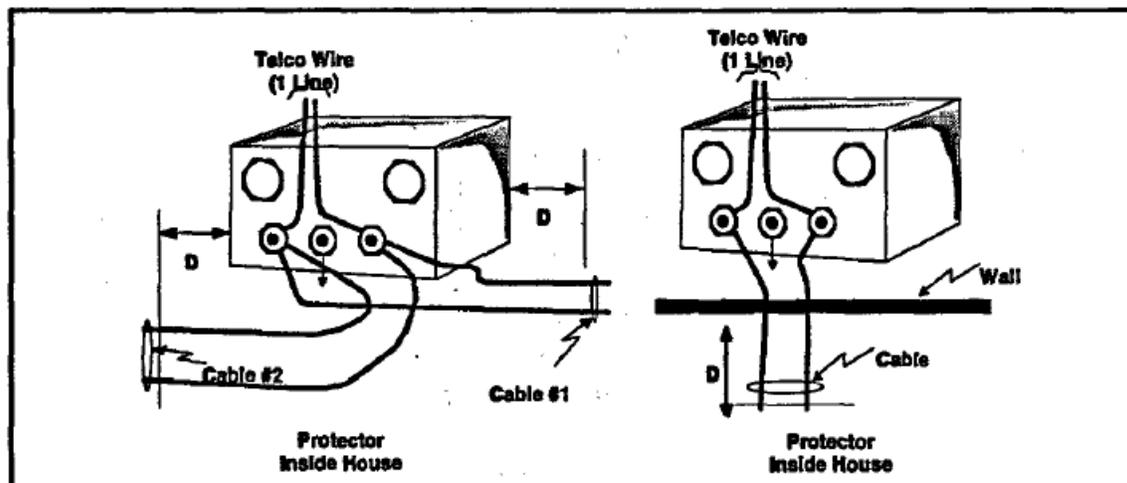
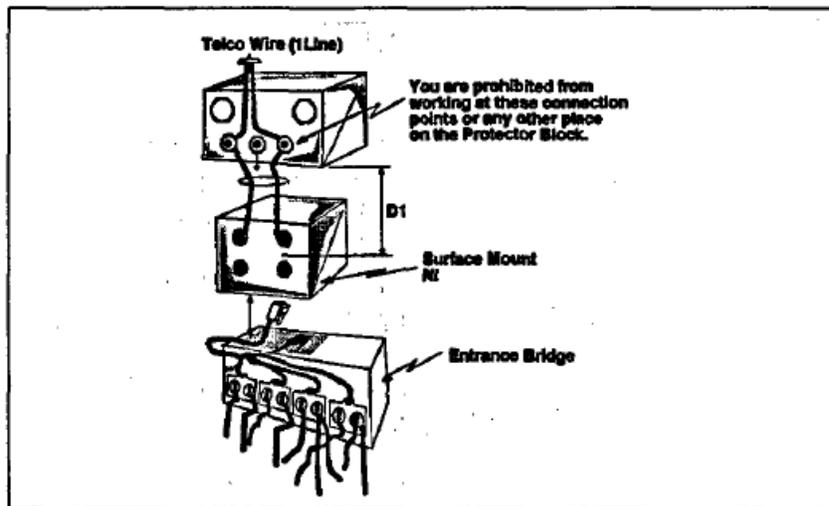

Figure A.1
Figure A.2
In the case where there is no physical device available for NI connections, a number of options are available to the homeowner. The intent of the following discussion is to provide the information required to convert a situation like the one in Figure 1.2(a) into a configuration like one of those shown in Figures A.2 and A.3. The most important step in this process is the addition of
The first step in a conversion involves understanding the 12" Rule which is illustrated in Figure A.1. The left side of the figure shows where the Protector Block is located inside the building, while the right side illustrates where the protector is outside the building or there is no protector. In both cases there are most likely one or more distribution devices, like the junction boxes of Figure 1.4 (a), located within your house. While these junction boxes can legally be used to add additional cables, this approach is not consistent with good practice and will not provide the flexibility that is required for modern communications services like ISDN.
If the Telephone Company performs the conversion they are required, by the 12" rule, to place the NI device within 12 inches of the Protector Block or the point of wire entry into the house. This distance is shown as dimension 'D' in Figure A.1. It is important to understand that D is the distance from the Protector Block and NOT the length of the **wire**. For example, notice the difference in the length of cable 2 and the distance D on Figure A.1. A number of options are available to you when you do not have a NI device.
Figures A.2 and A.3 provide illustrations of the type of NI that uses a Protector Block and a surface mount outlet (SMO). In these figures the distance D1 will be 12" or less in Ameritech installation. If you are not going to use Ameritech for your installation you should understand their policy with respect to the distance from the Protector Block to the NI device (D1). There are two possibilities, either you can place the NI device within the 12" limit or you must place it more than 12" from the Protector Block. In either case, you are prohibited from working any
2. Select the desired location for the distribution device. Make sure that all of the cables connected to the Protector Block will reach the demarc device (for example, the Surface Mount Service Outlet in Figures A.2 & A.3).
3. Select a single in-house cable, for example cable #2 in Figure A.1. Cut this cable to reach the NI Device but leave any other cables connected to the protector block intact. Strip wires on the end connected to the protector block. Then make the connection, between the NI device and the Protector Block, as shown in Figures A.2 & A.3.
5. Now that you have a working NI device the next step is to deal with any additional cables still connected to the protector block. For example, it used cable #2 of Figure A.1 in step 3 then cable #1 will still be connected to the protector block. Cut any remaining cables connected to the protector block in the same fashion that you cut the original cable in step 3.
7. If the NI device is a flush mount outlet type then use a standard 'Entrance Bridge' (sometimes called a Junction Box) as shown in Figure A.2. The cord on an Extension Bridge should be no longer than 12" (D2). If you have a device with a longer cord it is not a Entrance Bridge.